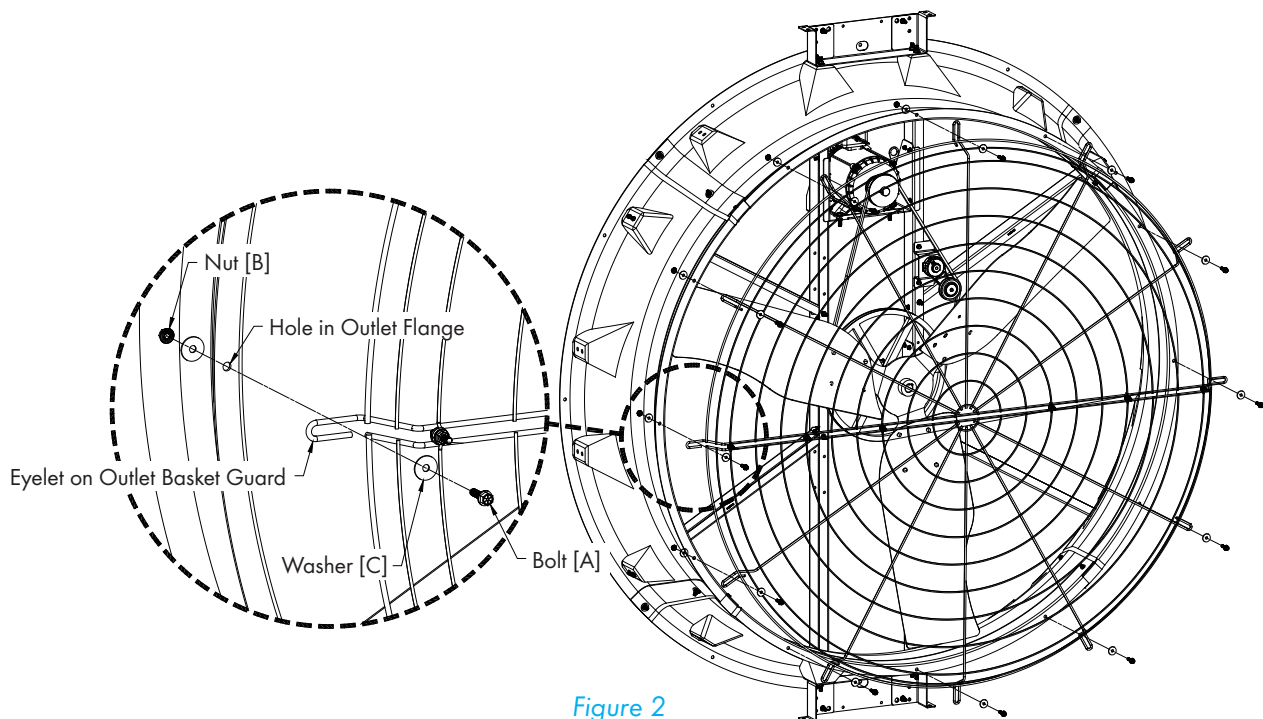

Figure 2
Attach the Outlet Basket Guard to the outlet flange of the CX74 fan using (12) Bolts [A], Nuts [B] and (24) Washers [C]. The bolt head and washer should be on outlet side of the guard and go through the eyelet, then the CX74 outlet flange with the nut on the rear side of the outlet flange. See Figure 2.